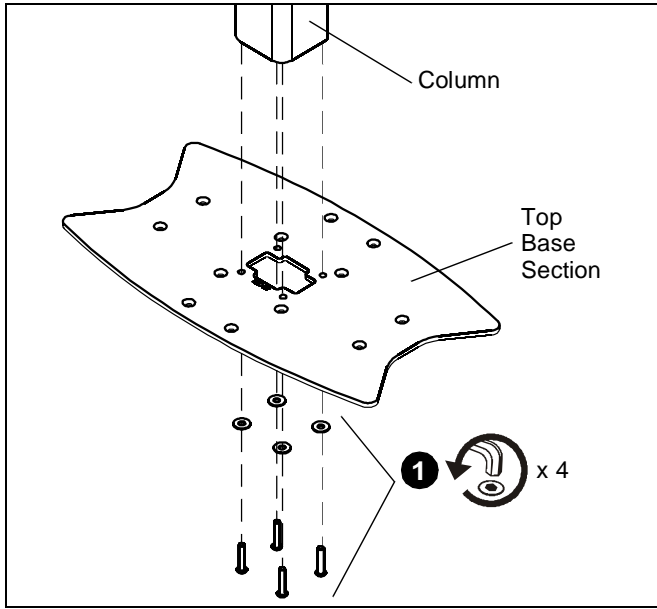

Figure 4
1. Remove and save four button head cap screws and four flat washers from top base section and column. (See Figure 4)